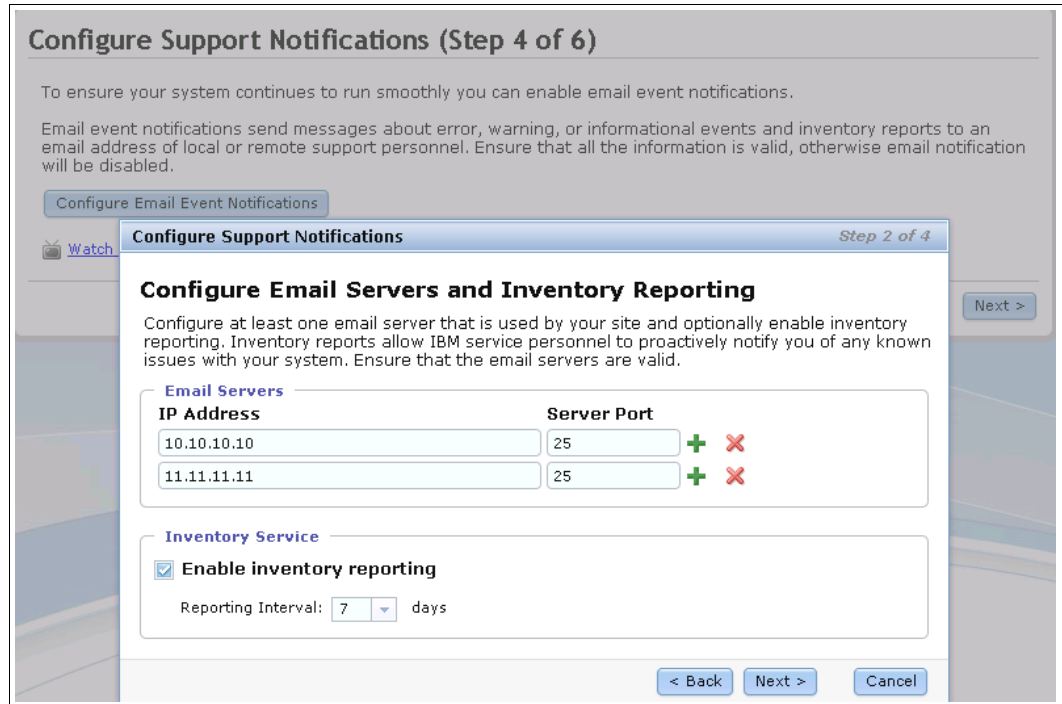

Figure 2-19 Email and event configuration - Email server definition
3. Configure the email server (Figure 2-19).